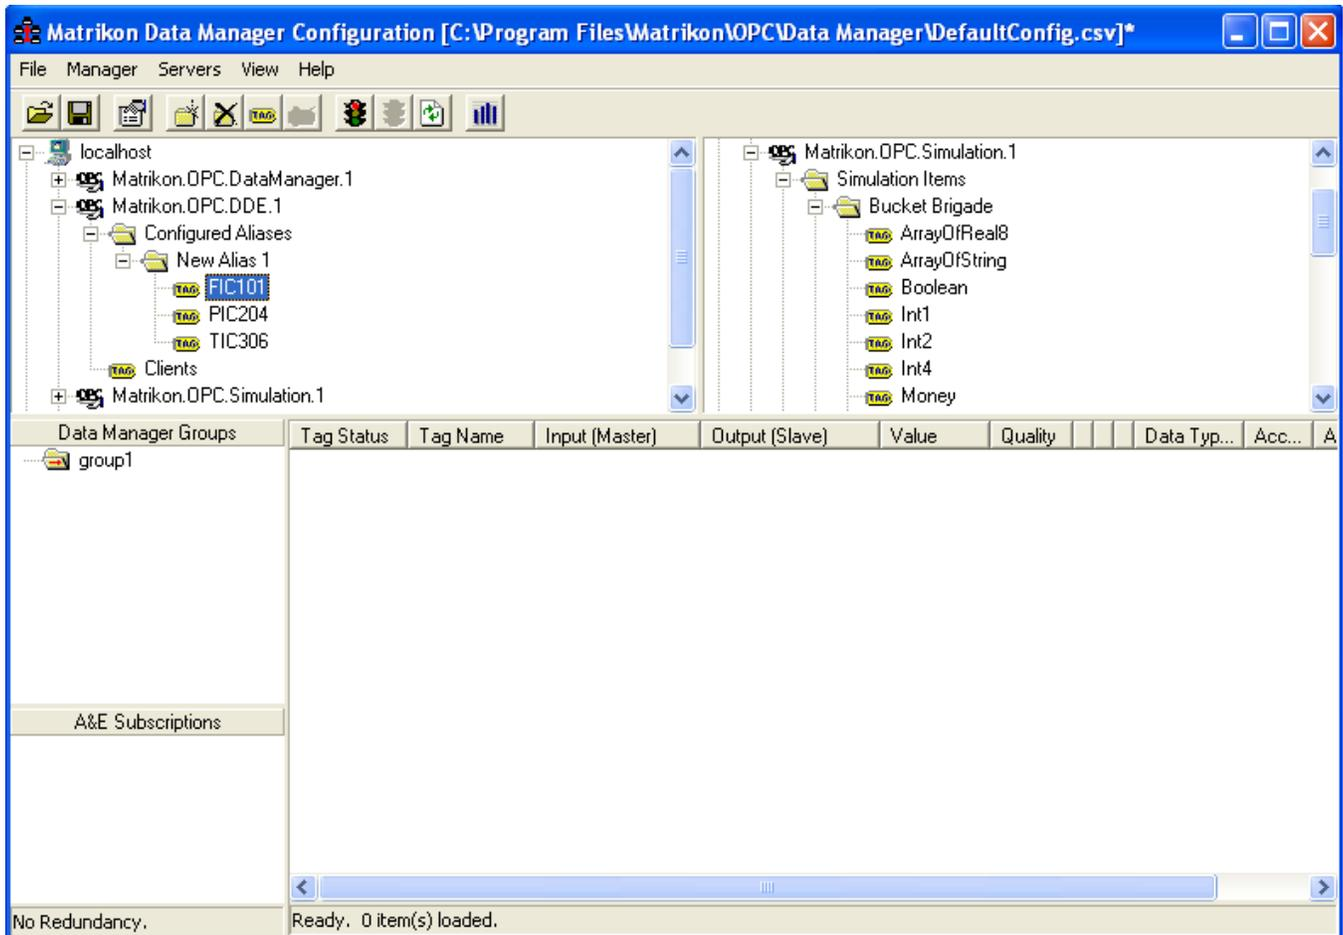

Figure 24 - Configured Data Points in MatrikonOPC Server for DDE Address Space
5. Select and expand the **Configured Aliases** folder. The data points of interest are already configured as aliases (created in **Configure the OPC Server**) and are found in the **New Alias 1** folder (Figure 24).